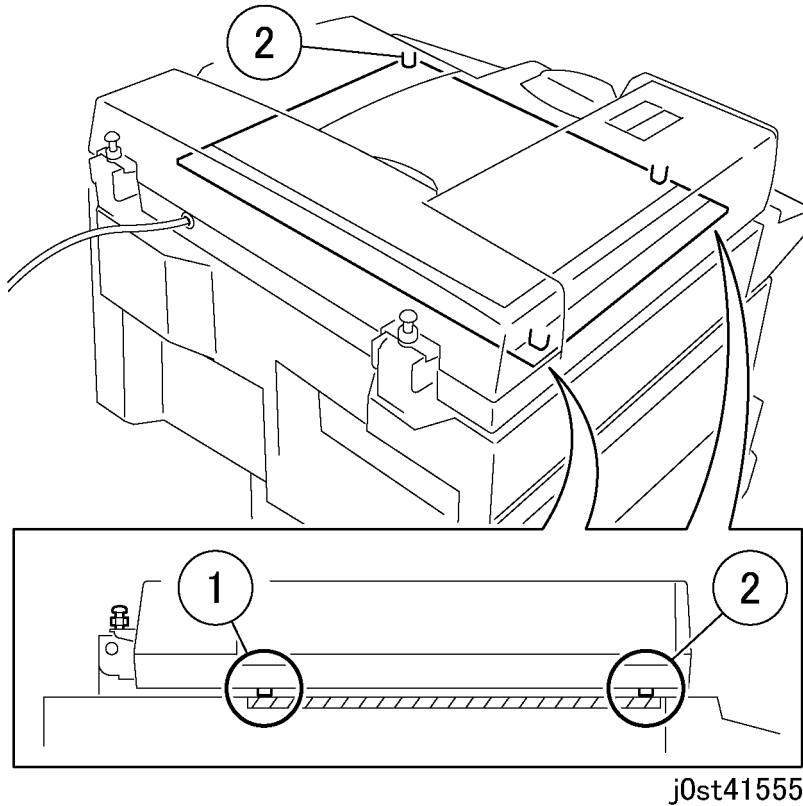

Figure 1 Checking the gap between the DADF Platen Guide and the Platen Glass
1. Check the gap between the DADF Platen Guide tips (x3) and the Platen Glass or DADF Platen Glass. (Figure 1)